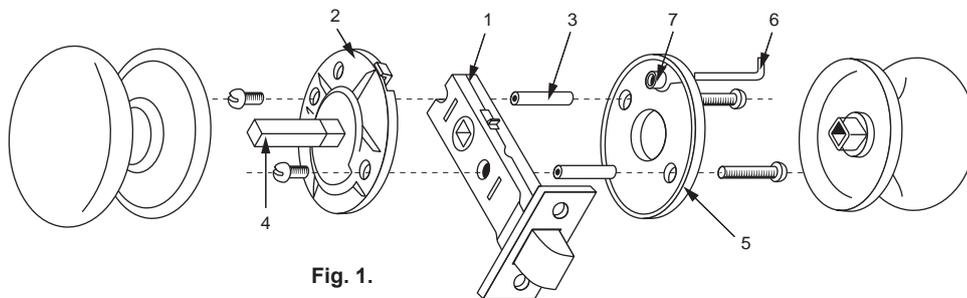

Fig. 1.
Note: All numbers in brackets () denote an item on figure 1.
8. Insert 'L' shaped 'Emergency Release Bar' (6) into 'outside assembly' emergency release bar hole' (See fig. 1.)